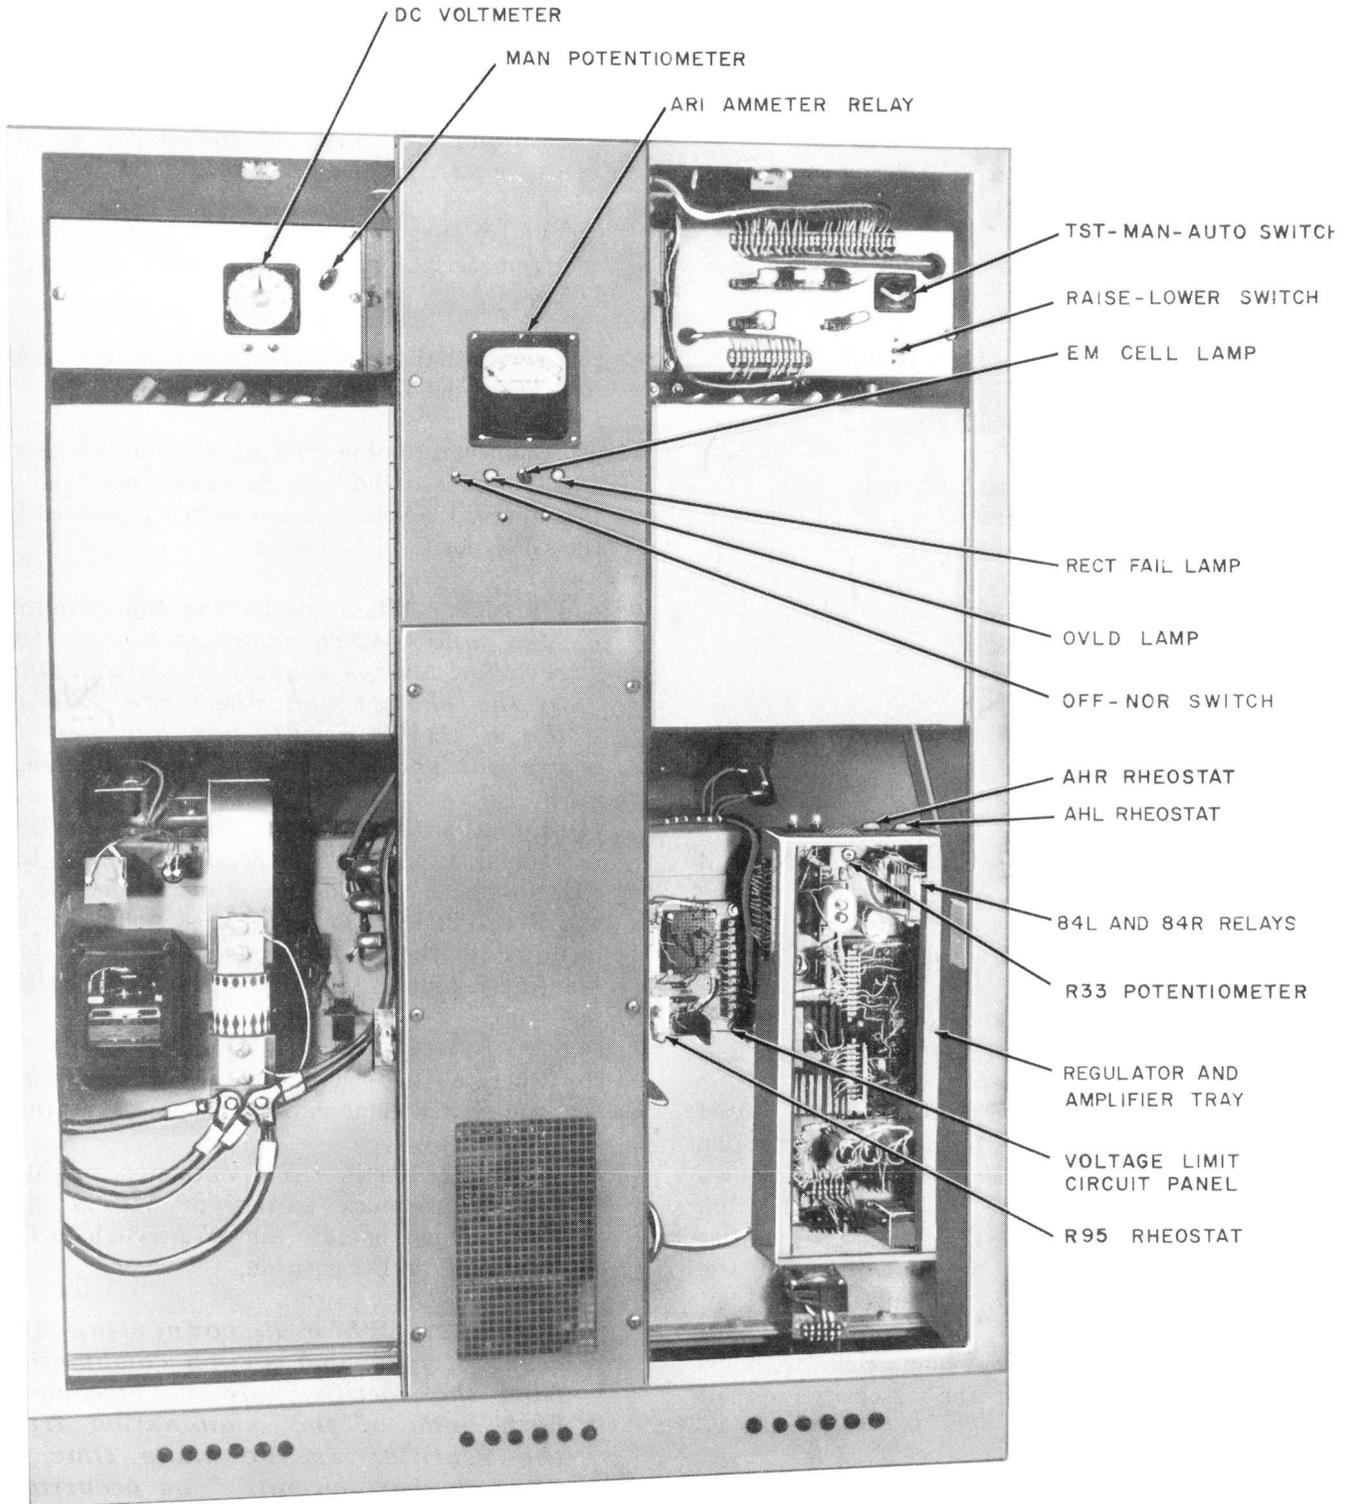

Fig. 1—KS-19212, L1 and L2, Rectifiers—Front View With Door Open
1.08 Refer to Fig. 1 for a front view of the KS-19212, L1 and L2, rectifier with the door open.